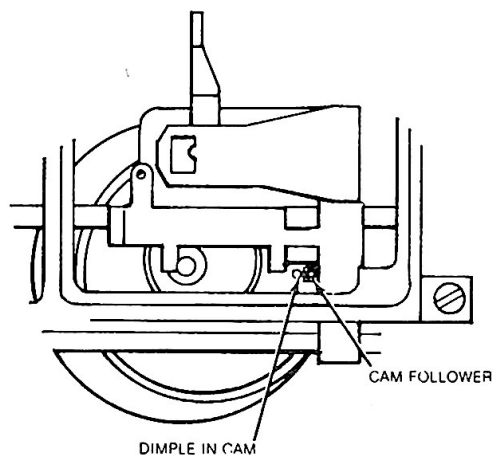

FIGURE 30. TRACK ZERO POSITION
- c. Rotate the head arm actuator until the cam follower is opposite the track 00 dimple in the cam. Reference Figure 30.